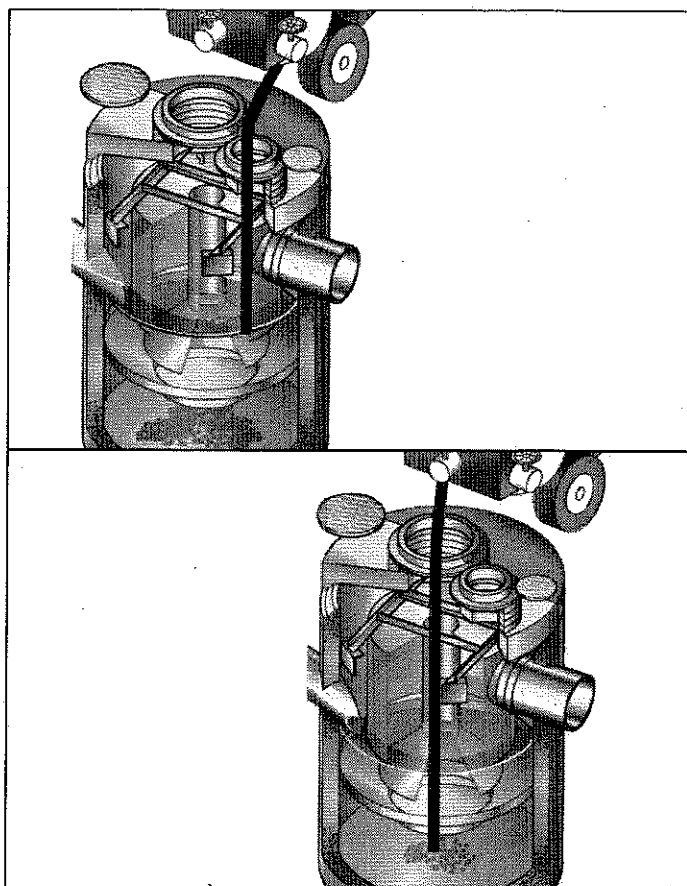

Figure 9: Floatables and sediment are removed with a vactor hose
4. Using the Floatables Port for access, remove oil and floatables stored on the surface of the water with the vactor hose or the skimmer net. Figure 9.